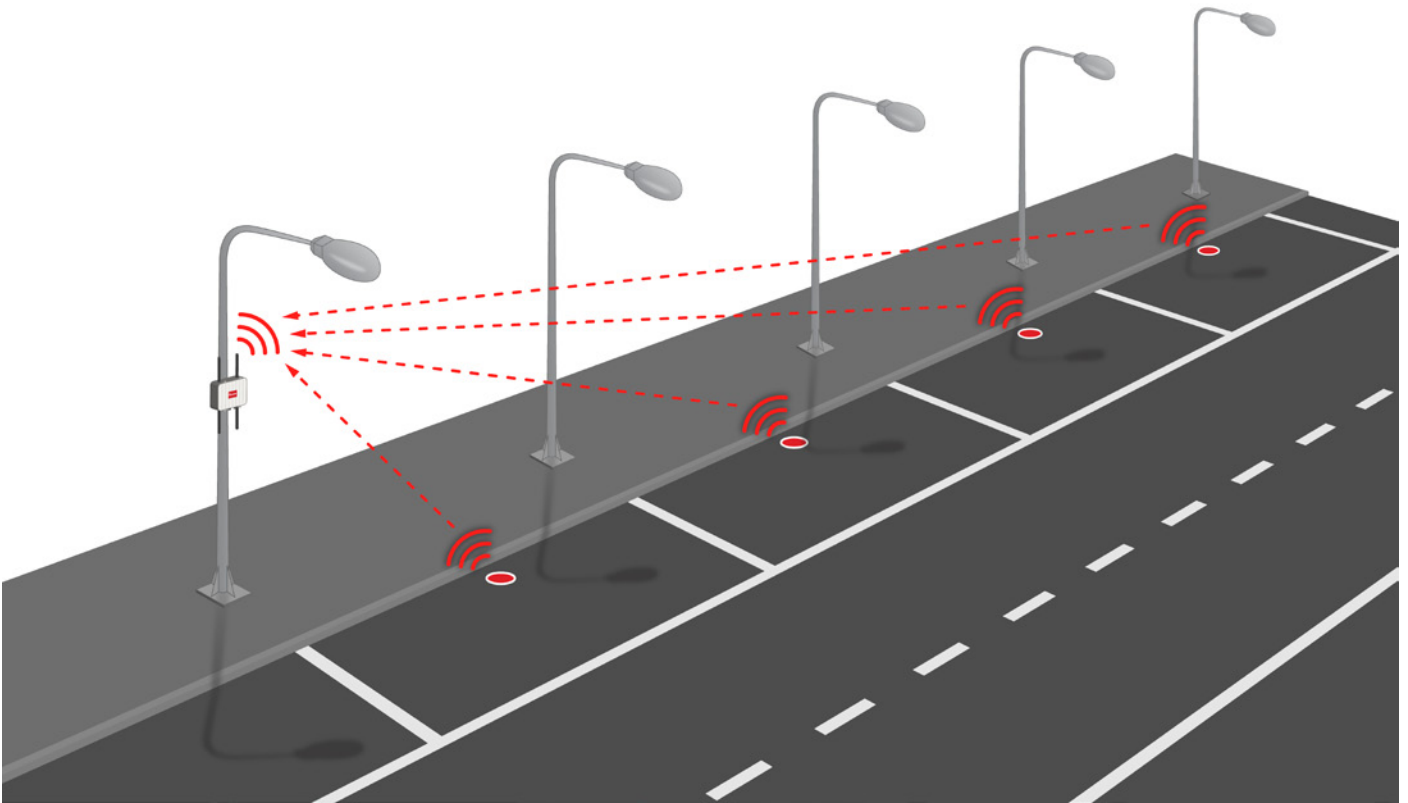

Figure 16: 868 / 900 MHz Direct Access Network - The nodes send directly the data to the Gateway
- 1° Step (Figure 16): The nodes send the information to Meshlium, the Gateway of the network.